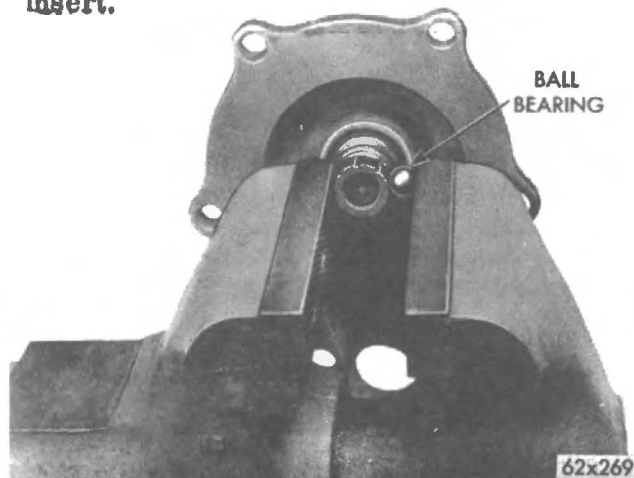

Fig. 6 - Splitting the plastic impeller insert.
(2) Remove the support plate and gaskets.
(3) Split the sintered metal insert of the plastic impeller as follows: Place a  $\frac{1}{4}$ " ball bearing against one of the grooves on the outer diameter of the insert. Position the insert and ball bearing in a vice and apply pressure against the ball bearing (See Fig. 6) until the insert splits. Remove the metal insert.